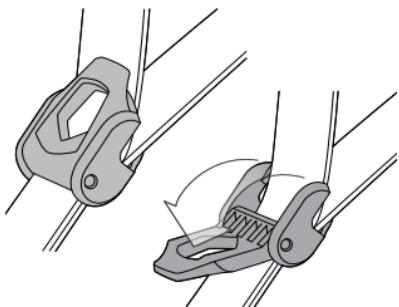

Figure 3. Operation of the Strap Adjustor
2. Unlock the strap adjustor (Figure 3).